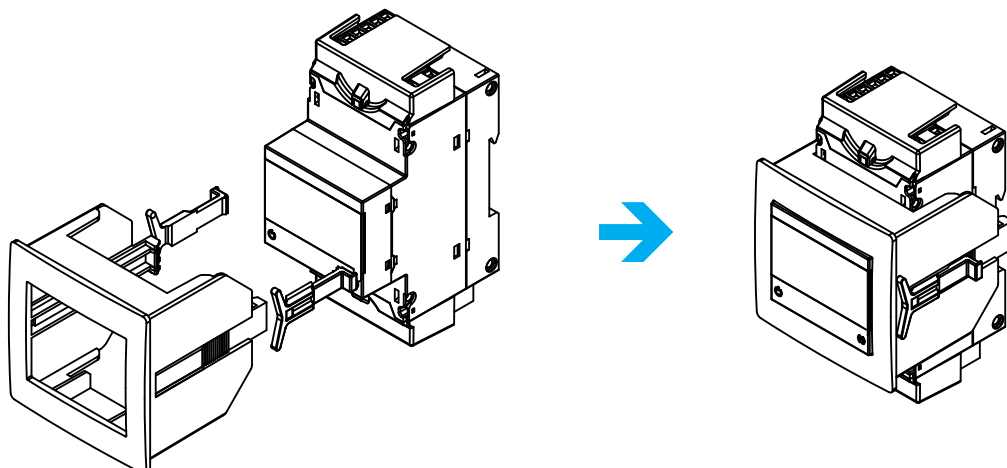

Figure 1: Installation of the panel adapter.
**Figure 1** illustrates how the panel adapter connects to a **line-CVM-D32**.